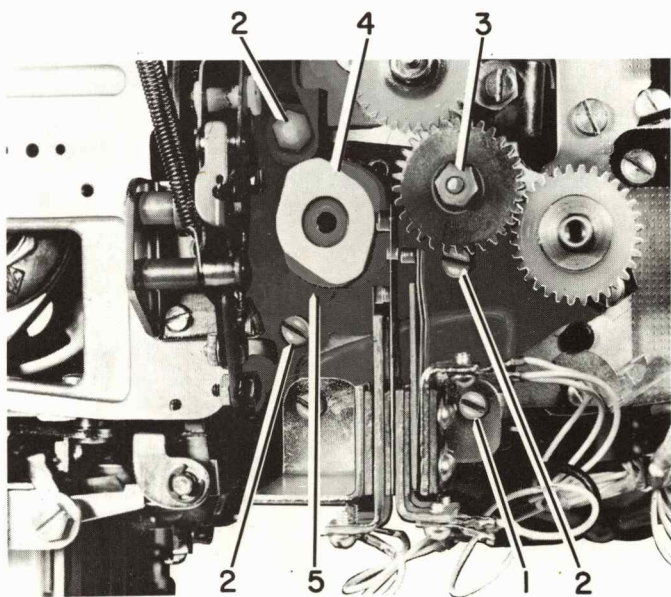
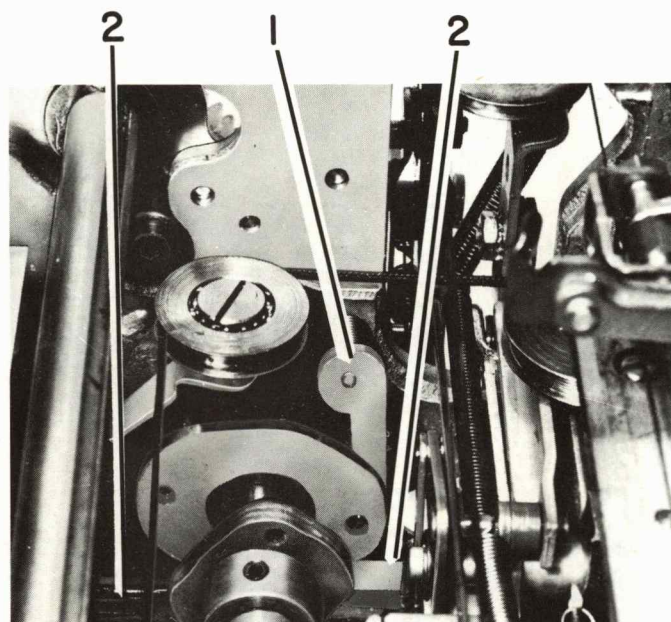

FIGURE 4. Cycle Clutch and Cycle Shaft Removal
FIGURE 5. Cycle Clutch and Cycle Shaft Removal
9. Remove the front screw from the C1 - C2 contact assembly (#1, Figure 4) and swing the assembly down out of the way of the bearing plate.
10. Remove the cycle-clutch check pawl and spring (#1, Figure 5).
11. Remove the three bearing-plate screws (#2, Figure 4).
12. Remove the bronze intermediate gear (#3, Figure 4).
13. Remove the C1 - C2 cams (#4, Figure 4) and the cycle shaft gear (behind the C1 - C2 cams).
14. Remove the bearing plate (#5, Figure 4) by prying it away from the frame (front end first) with a screwdriver and sliding it off the cycle shaft.
15. Force the positive bail down with a screwdriver (#2, Figure 5), making sure all the latches are under the bail. Insert a bristol wrench through the lower left bearing plate mounting hole (#2, Figure 4) over the top of the bail to hold it down.